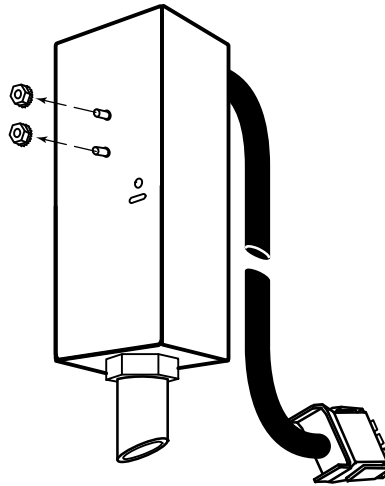

Figure 8. Remove M4 Hex Nuts with Captured Star Washers
2. Remove the two M4 hex nuts with captured star washers that are shipped already attached to the threaded studs on the back of the External Battery Interconnect (see Figure 8).